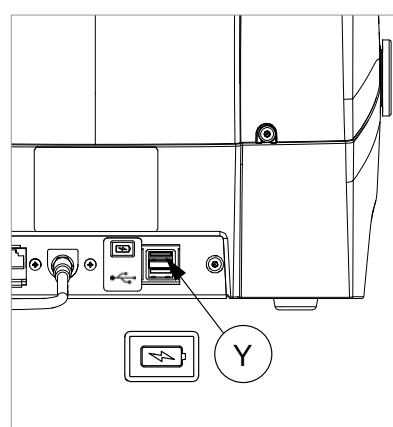

Fig. 17
- 1) Connect the tablet to a power source by means of its power pack in order to charge it (3 hours for the first charge). The tablet can also be charged connected to the specific USB port (Y) on the back of the machine (Fig. 17, page 13).